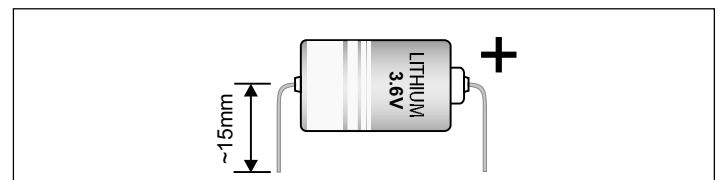

Fig. 5 3.6V Lithium battery
5. Put the new battery in **making sure the polarity is correct as outlined in fig. 5**